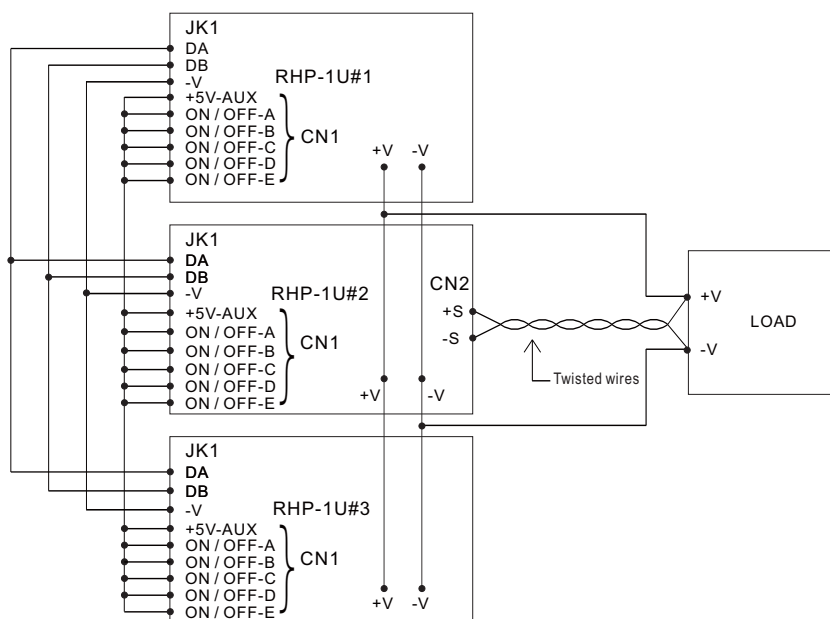

Figure 3-8 Configuration of three rack shelf units in parallel
- ⊙ Connect rack shelf units in parallel before linking to the load. Do not connect rack shelf units to the load separately. Refer to Figure 3-8
- ⊙ Control singles of DA, DB and -V should also be connected in parallel. (Refer to Figure 3.8).
- ⊙ Use twisted wires for the wiring of +S and -S, the twisted wires should not touch the load wires to avoid interference. Refer to Figure 3-8.